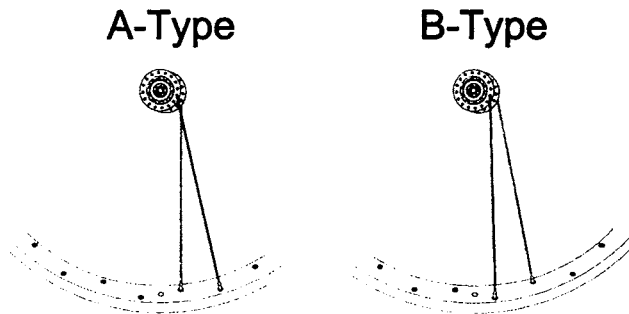

Fig.6 - Correct location of the guide spoke will depend on rim type.
Step 11 - Orient the rim again so the valve hole is nearest you. Just as with the first side, you want to attach a spoke to the first hole to the right of the valve hole that is offset up. Unfortunately, on this second side, you cannot simply select a head up spoke from the 3 or 4 o'clock position to fill this hole. It won't work. You need to use a guide spoke to help you find the correct spoke to fill this hole (figure 6).
Select the correct spoke, using the method described above, and attach it to the rim in the first hole offset up that lies to the right of the valve hole (see figure 6). As a double check, note the head orientation of the spoke you just attached relative to the head orientation of the guide spoke. These spoke heads should be oriented symmetrically - i.e., they should be a mirror image of each other. If they are not, verify that all the steps in this procedure have been followed correctly. If you have followed all the steps, then the hub was not loaded correctly for the type of rim being used. Correct the problem before continuing.